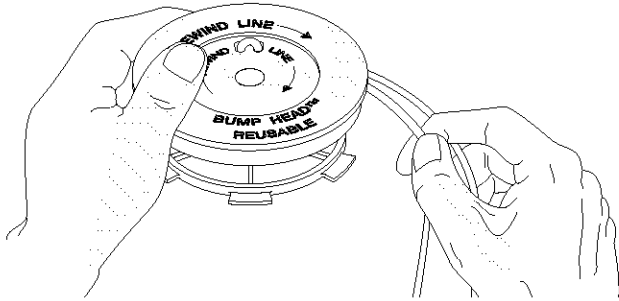

Fig. 21
7. Wind the lines in tight even layers, onto the reel (Fig. 21). Wind the line in the direction indicated on the inner reel. Place your index finger between the two lines to stop the lines from overlapping. Do not overlap the ends of the line. Proceed to step 11.
8. Take approximately 10 feet (3 m) of new trimming line. Insert one end of the line through one of the two holes in the inner reel (Fig. 21). Pull the line through the inner reel until only about 4 inches is left out.